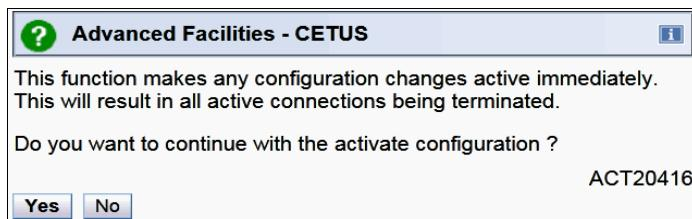

Figure 7-12 Activate configuration confirmation
15. The confirmation panel appears. Click **Yes** to continue (Figure 7-12).